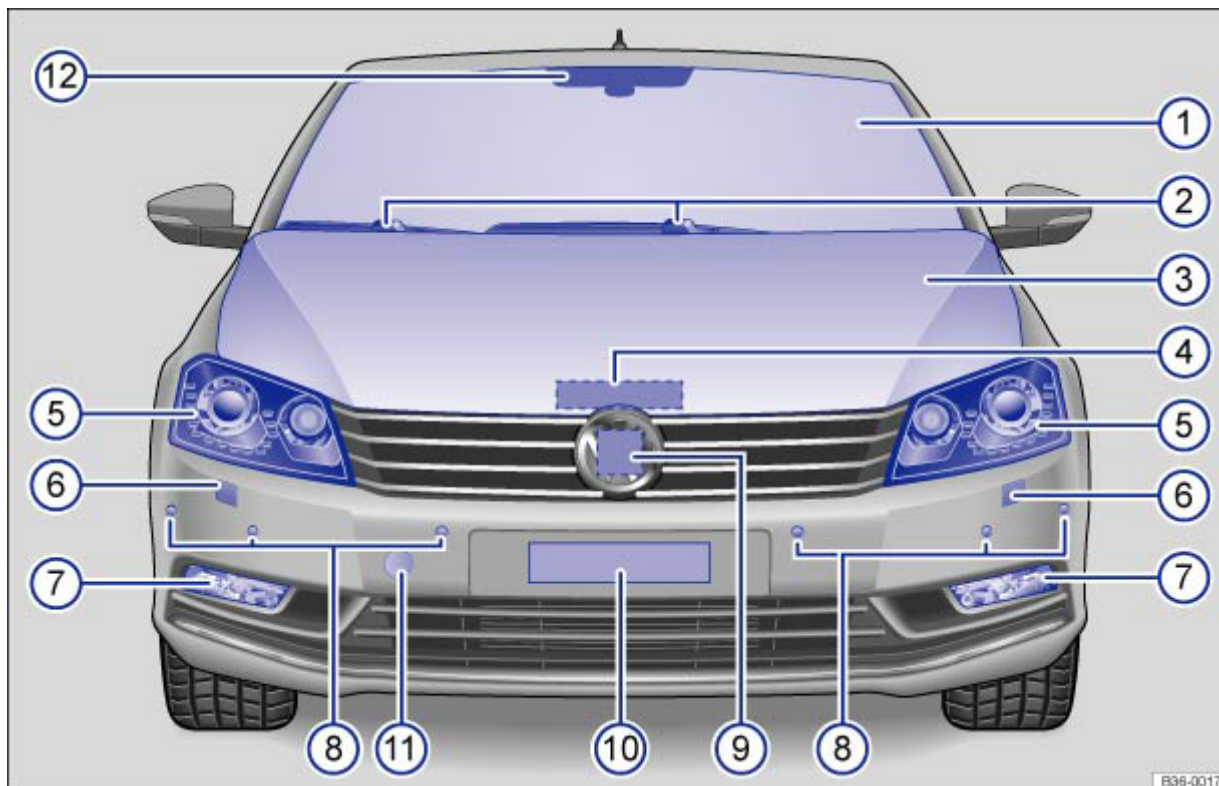

Fig. 2 Overview of the front of the vehicle
**Key for → Fig. 2:**
- ① Windscreen
- ② Front windscreen wipers → *Windscreen wiper and washer*
- ③ Bonnet → *In the engine compartment*
- ④ Bonnet release lever → *Preparation for working in the engine compartment* , **LOW**
- ⑤ Headlights → *Lights* , → *Changing bulbs*
- ⑥ Headlight washer system → *Windscreen wiper and washer*
- ⑦ Fog lights or static bend lighting → *Lights* → *Changing bulbs*
- ⑧ Sensors for the front parking distance warning system → *Parking distance warning system* or Park Assist system → *Park Assist system*
- ⑨ Radar sensor behind the Volkswagen emblem → *ACC (adaptive cruise control)*